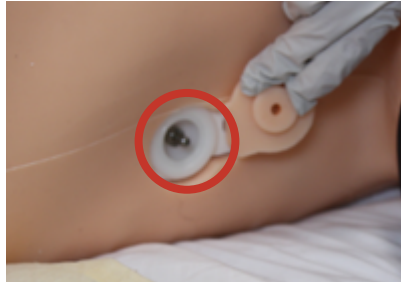

Figure 1
- Defibrillation is only allowed on the sternum and apex snap sites, as indicated in figures 1 and 2